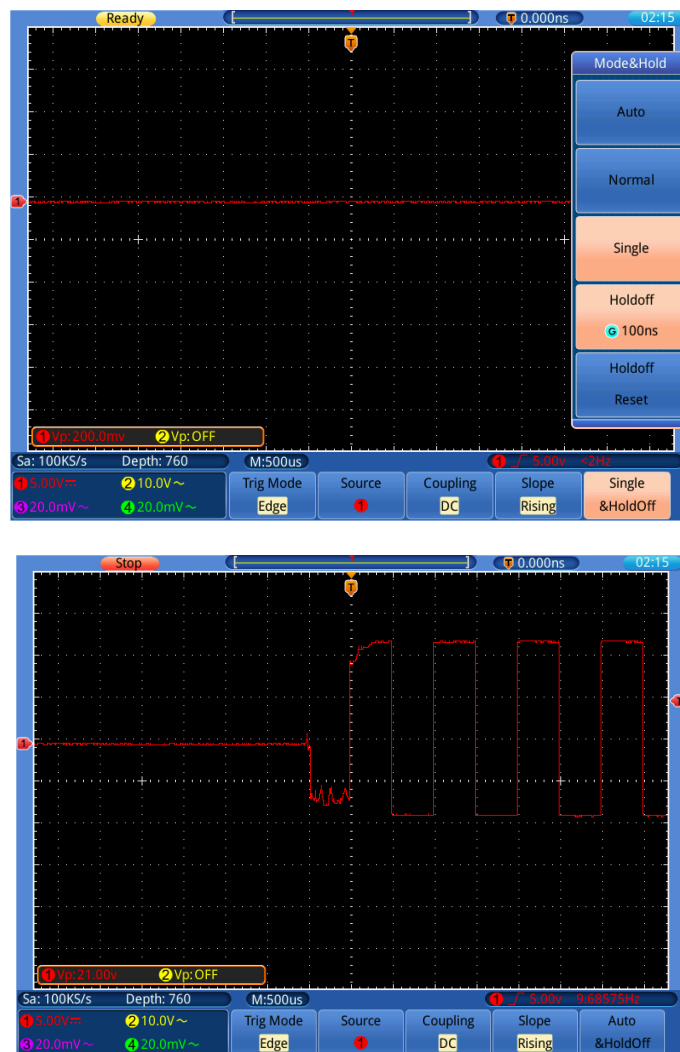

Figure 0-3 Capturing a Single Signal
- (1) Set the probe menu attenuation coefficient to 10X and that of the switch in the probe to 10X (see "
- (2) *How to Set the Probe Attenuation **Coefficient**"* on P101).
- (3) Adjust the **VOLTS/DIV** and **SEC/DIV** knobs to set up a proper vertical and horizontal ranges for the signal to be observed.
- (4) Press the **TRIGGER Menu** button.
- (5) Select **Trig Mode** in the bottom menu; select **Edge** in the left menu.
- (6) Select **Source** in the bottom menu; select ① in the left menu.
- (7) Select **Coupling** in the bottom menu; select **DC** in the right menu.
- (8) Select **Slope** in the bottom menu; switch it to **Rising**.
- (9) Select **Mode&HoldOff** in the bottom menu; select **Single** in the right menu.
- (10) Adjust the trigger level to the roughly 50% of the signal to be measured, you can use the **TRIG LEVEL** knob or the touchscreen (see "Vertikalsystem per Touchscreen" on P21).
- (11) Check the Trigger State Indicator on the top of the screen, if it is not Ready, push down the **Run/Stop** button and start acquiring, wait for trigger to happen. If a signal reaches to the set trigger level, one sampling will be made and then displayed in the screen. By using this approach, a random pulse can be captured easily. For instance, if we want to find a burst burr of high amplitude, set the trigger level to a slightly higher value of the average signal level, press the **Run/Stop** button and wait a trigger. Once there is a burr occurring, the instrument will trigger automatically and record the waveform during the period around the trigger time. By turning the **HORIZONTAL POSITION** knob in the horizontal control area in the panel, you can change the horizontal triggering position to obtain the negative delay, making an easy observation of the waveform before the burr occurs (see Figure 0-3).